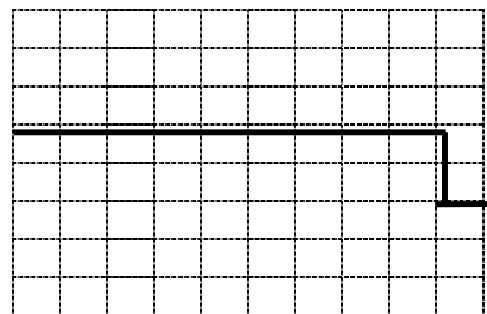

Fig. 1. Test point A.
5. Calibrate an oscilloscope to select channel 1 and triggered from channel 1. Set 5V/div. Connect probe ground to pin 8 or pin 11 on FC6 board.. Place the probe to a test points labeled as A, that is located just above U2. A 60 Hz square wave with 12 VDC amplitude will be shown on the scope. Adjust time base on the scope to make the square wave in 9 grids from the left side as shown in the Fig 1. It represents as a half cycle, 180 degreeed phase A of 60 Hz main powers. Then check test points B and C that should have the same wave form as phase A. They represente phase B and phase C. To see 120 degree shifted among the 3 phases, use both channel 1 and channel 2 probes to measure any 2 test points and set scope trigger from channel 2.